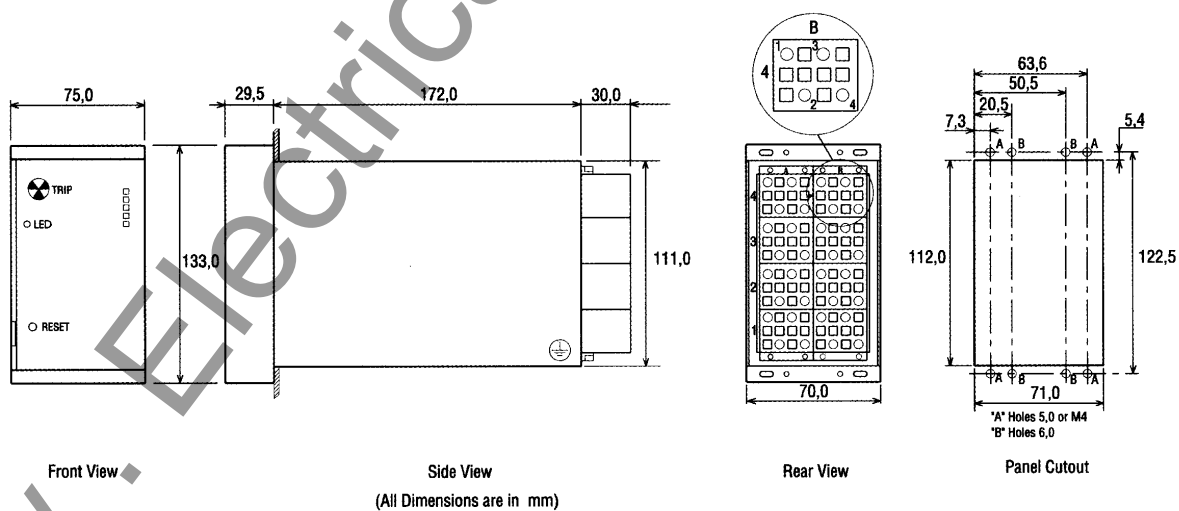

Fig 3. 7VH80 relay in flush mount case
1. The individual connections are marked sequentially from left to right (viewed from the rear). See fig. 3.